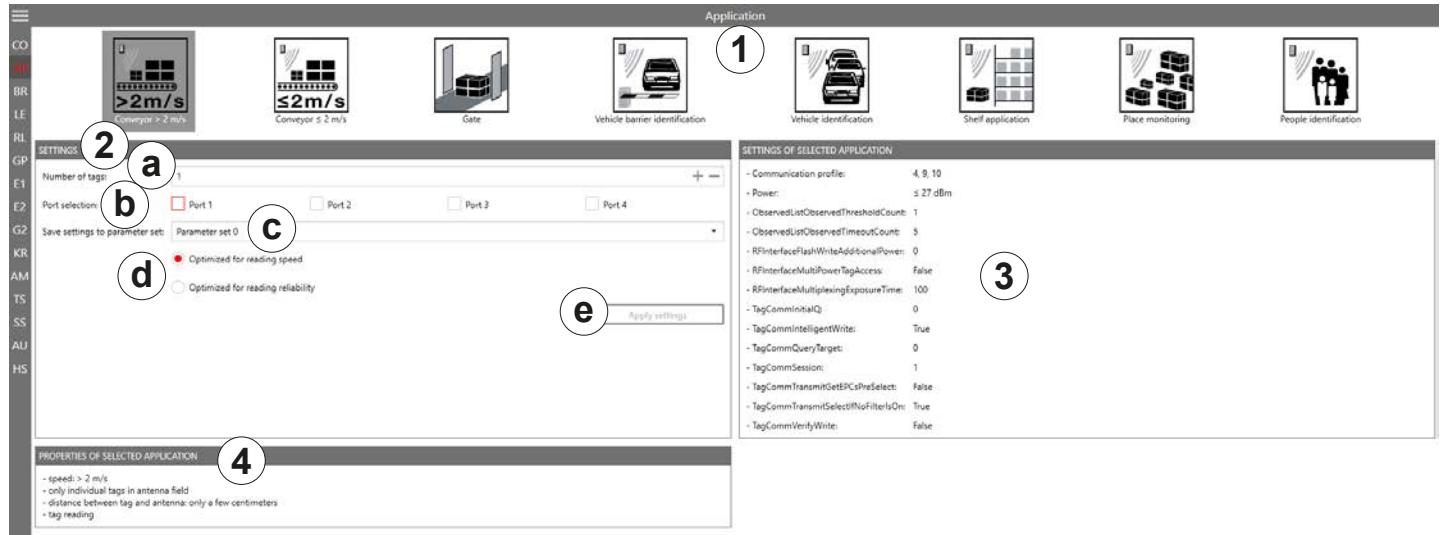
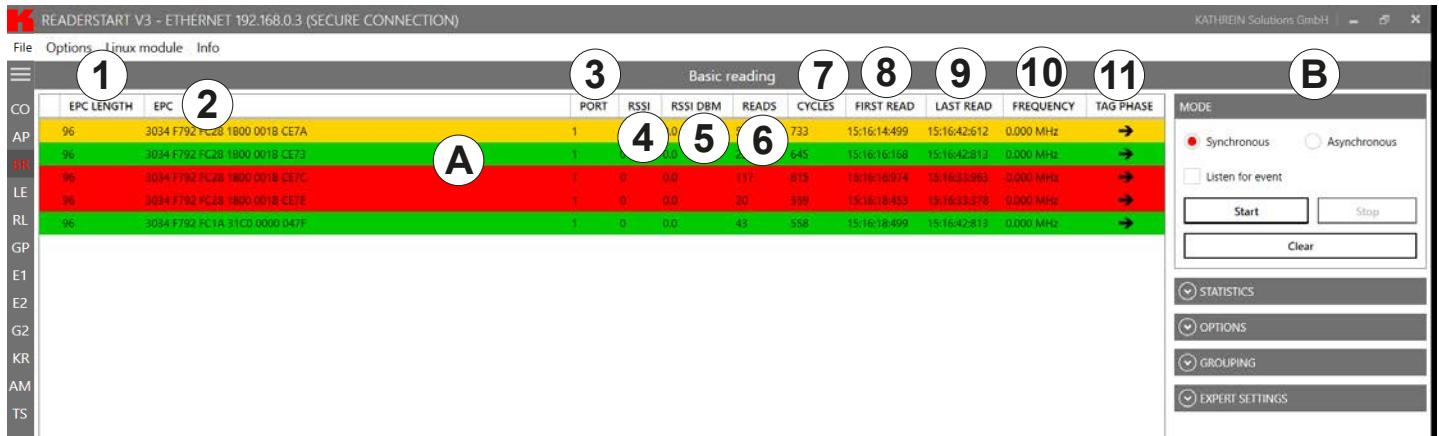

Fig. 51: Application tab
Fig. 52: Basic reading
- Click *Start* (④ in Fig. 52) to start the reading.
- Click *Stop* (⑤) to stop the reading.
- Click *Clear* (⑥) to remove all tag entries from the table (④ in Fig. 51)